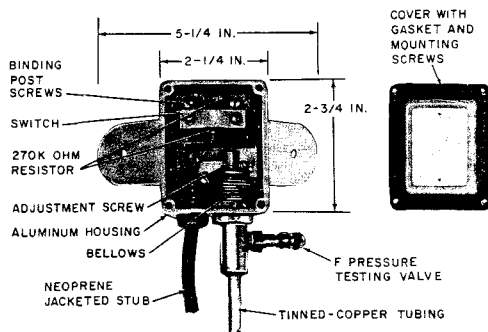

Fig. 1—L Pressure Contactor With Dual Resistors—Front View
- The *L pressure contactor* (Fig. 1) is equipped with a 6-foot length of tinned-copper tubing for making pneumatic connection to the pressurized cable. An aluminum bracket is attached to the back of the housing for mounting the contactor on a pole or wall. Two No. 12 by 2-inch long wood screws are furnished for mounting.